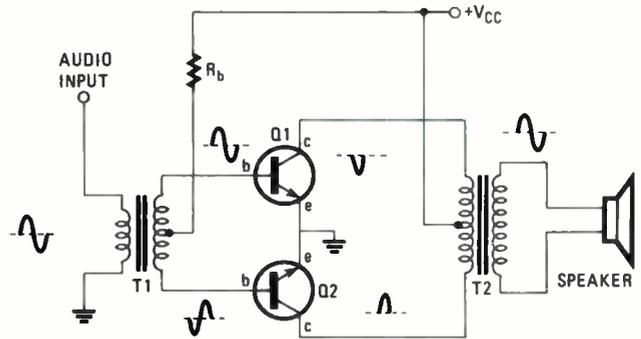

Fig. 22—A class B push-pull audio power amplifier uses each "channel" for one-half the waveform cycle.
There are some amplifiers that deliberately resort to distortion for their operation. Class B and class C amplifiers are examples. A class B amplifier conducts for only one half-cycle, or  $180^\circ$  of an AC sine wave input. It is cut off the other half-cycle. Therefore, in order for amplification to occur without distortion, two amplifiers must be combined, one for each half-cycle of the signal. Such an amplifier is referred to as a *push-pull* amplifier. A typical circuit is shown in Fig. 22. Q1 conducts on positive half-cycles while Q2 conducts on negative half-cycles of the input.
55. (one half-) In Fig. 22, transformer T1 couples the input to the bases of Q1 and Q2.  $R_b$  provides a small value of bias so that
The amplifier in Fig. 22 is called a \_\_\_\_\_ amplifier.